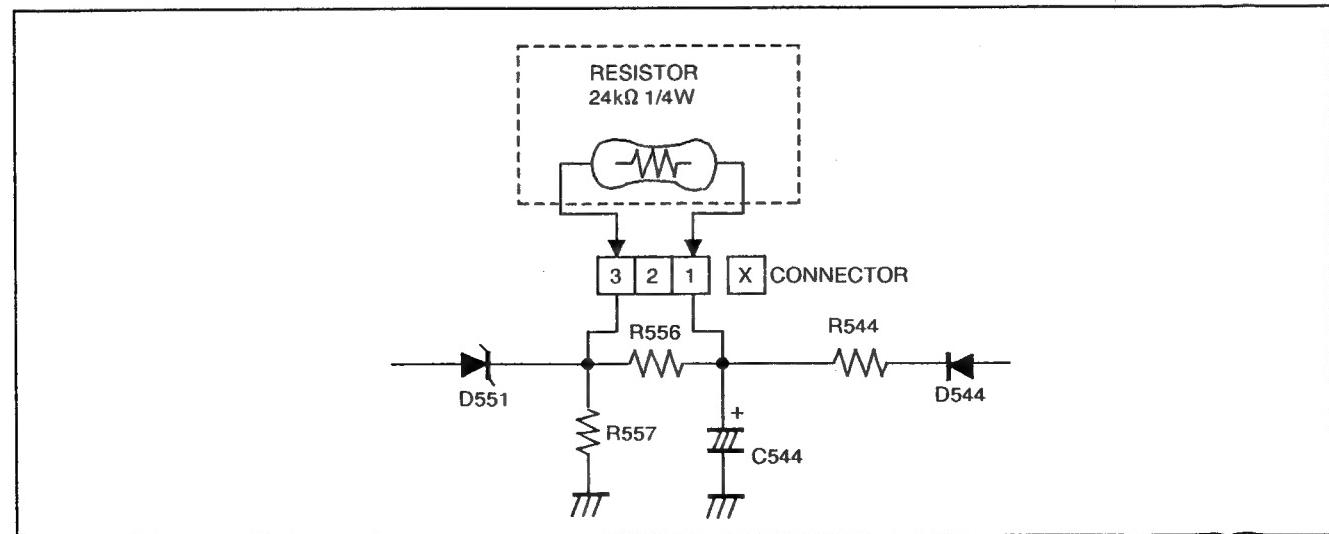

Fig. 2
- (1) Turn the POWER SW ON.
- (2) As shown in Fig. 2, set the resistor (between X connector [1] & [3]).
- (3) Make sure that the screen picture disappears.
- (4) Temporarily unplug the power cord.
- (5) Remove the resistor(between X connector [1] & [3]).
- (6) Again plug the power cord, make sure that the normal picture is displayed on the screen.